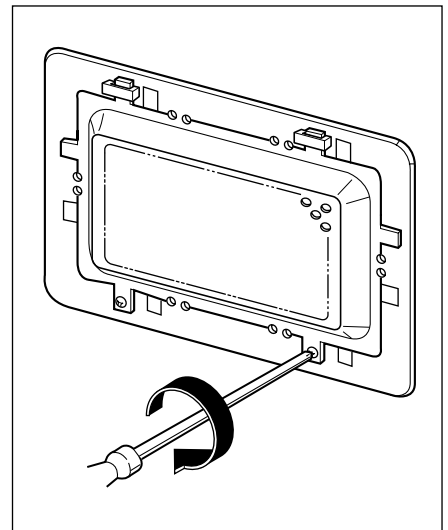

Fig. 21
- (8) Fit the turntable motor cover's projecting part to the base plate's slit. (Fig. 21)